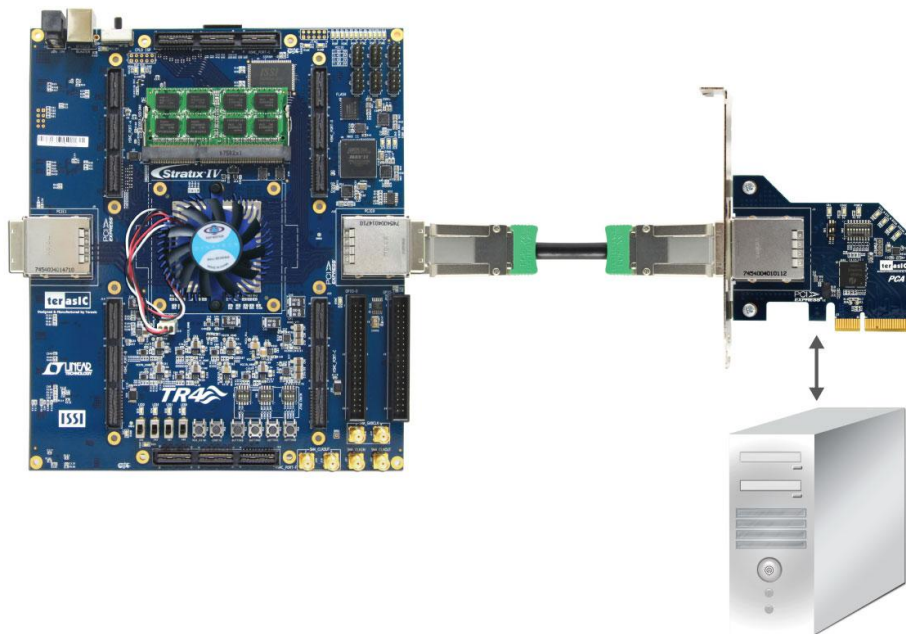

Figure 6-12 PCIe Fundamental Communication Demonstration Setup
- Use the PCIe cable to connect to the TR4 PCIE0 connector and PCIe adapter card as shown in **Figure 6-12**
- Use the PCIe cable to connect the TR4 PCIe0 connector and PCIe adapter card as shown in **Figure 6-12**